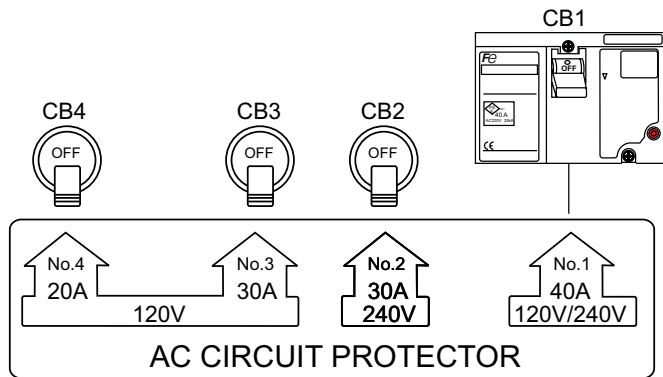

Figure 48. Circuit Breakers OFF
1. Place the **main** (CB1), **duplex** (CB4), and **auxiliary** (CB2/CB3) circuit breakers as shown in Figure 48 to the **OFF** position.